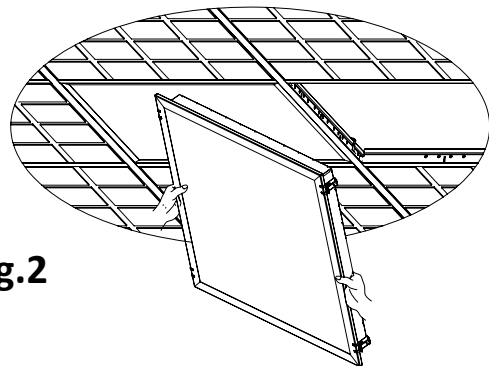

Fig.2
- Remove 2 ceiling tiles. (Fig.2)